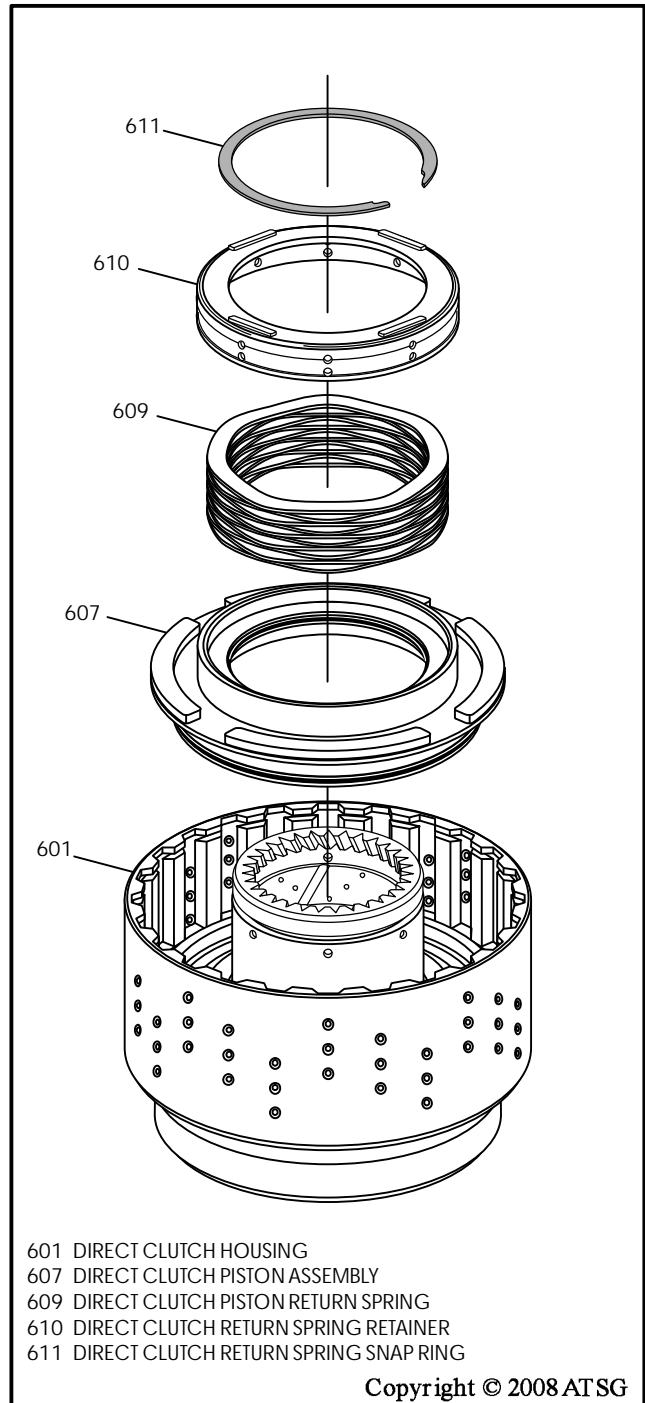

Figure 117
7. Install the piston and seal assembly into direct clutch housing, as shown in Figure 117.
8. Install the direct clutch piston return spring into direct clutch housing, as shown in Figure 117.
9. Install the direct clutch piston return spring retainer on top of the return spring, as shown in Figure 117.
10. Using the proper adapters, compress the return spring and retainer and install the snap ring (See Figure 117).